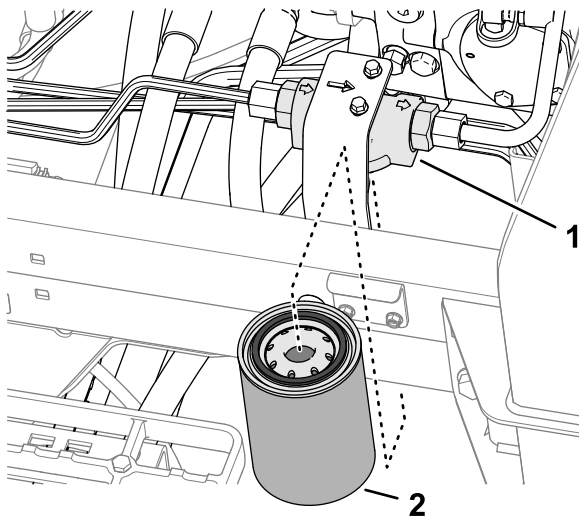

Figure 114
3. At the left side of the machine, align a drain pan under the charge filter (Figure 114).